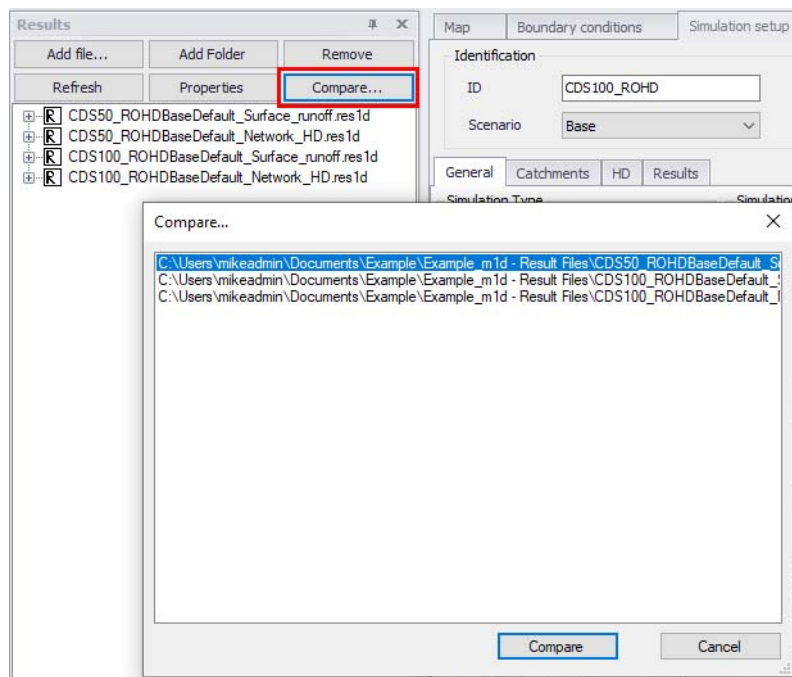

Figure 20.111 Loading result files for comparison of results
- Select one of the result file layers (i.e. File A) on the Results manager, and click on the ‘Compare...’ button at the top of the panel (Figure 20.111). This will launch a dialog listing other loaded result file layers available for comparison with the currently-selected layer.